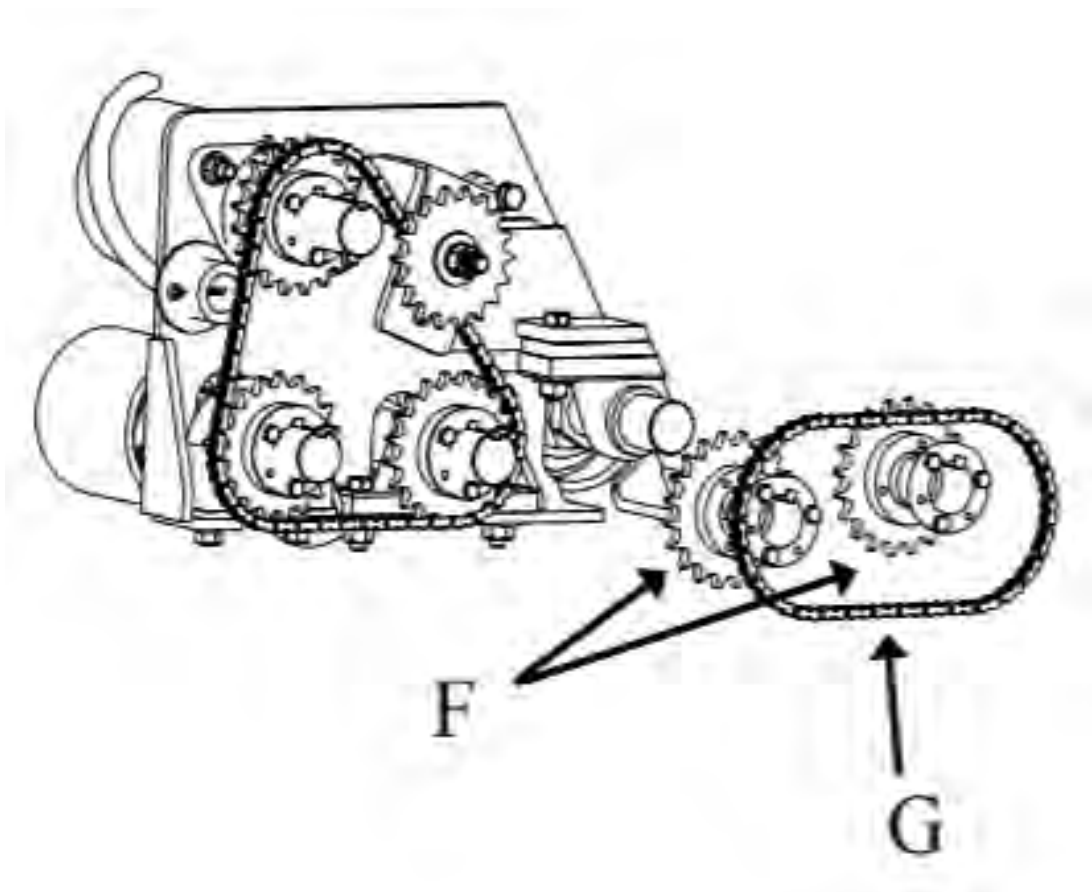

Figure 7-28: Installing Reverse Grabroll Kit (model 2500)
2. Attach sprockets (F), shown in figure 7-28, to shafts on grabrolls #4 and #5 on the right side of the machine, using the hubs provided.
3. Install drive chain (G) over sprockets.